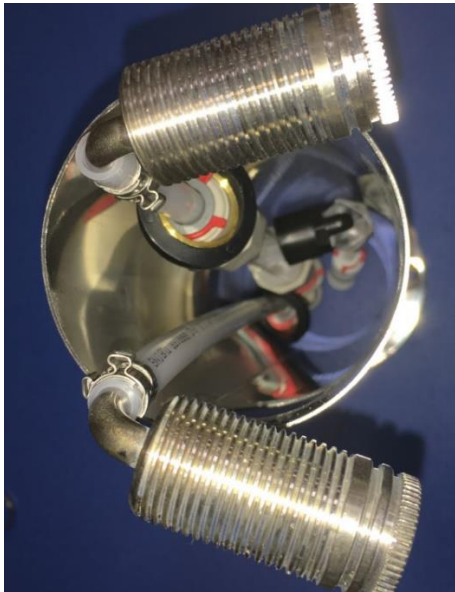

Figure H19: Sub Assembly inserted inside tower.
- 4.2.2.** Place the tower upright and drop the sub assembly into the tower with the 2-Way Divider going in first. **See Figure H19.**